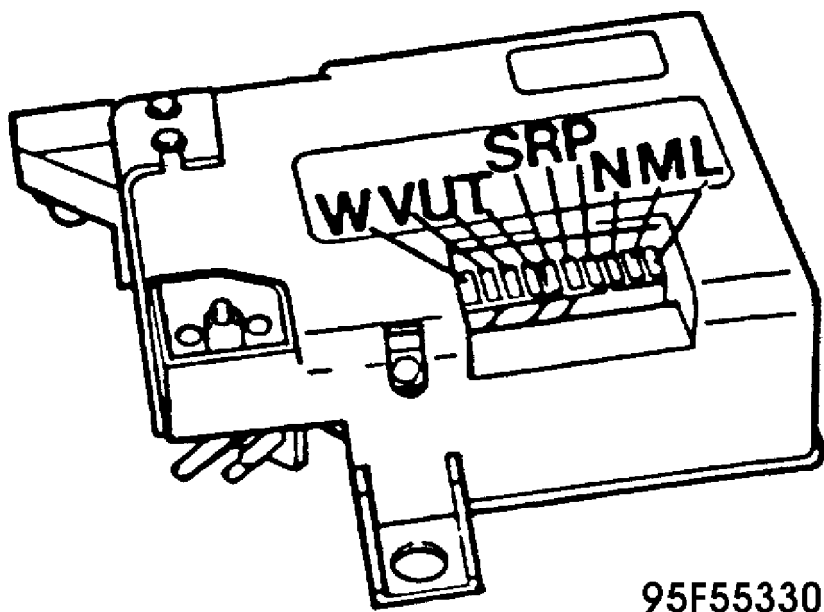

Fig. 17: Programmer Connector
- Bend terminal of BK/BL wire (terminal S) to ensure proper contact with programmer. See Fig. 17.